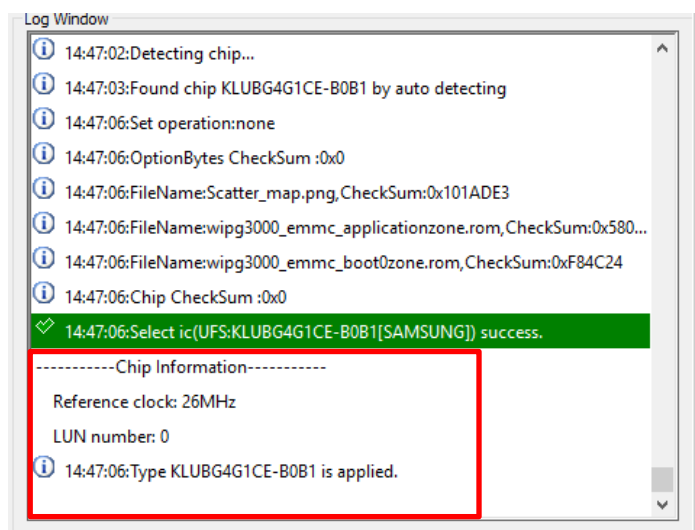

Fig. 5-40
**Step 1.** If the LUN number still remains at zero (Fig. 5-40) even after the IC and socket are installed, then it might indicate the LUN is unable to write, please partition the LUN first.